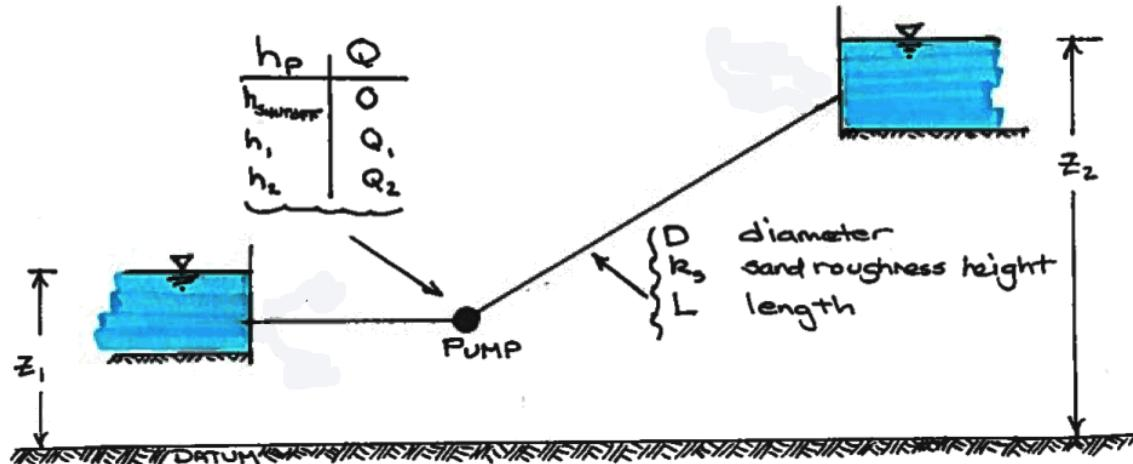

Figure 2: Pipeline and pump schematic
2. Water is to be pumped at a rate of 70 liters per second in a 1-kilometer meter long, 200 millimeter diameter pipeline between two reservoirs with an elevation difference of 26 meters. A schematic of the system is shown on Figure 2. The kinematic viscosity of water in the system is  $\nu = 1 \times 10^6 m^2/s$ . The roughness height of the steel pipe is  $\epsilon = 0.045 mm$ .